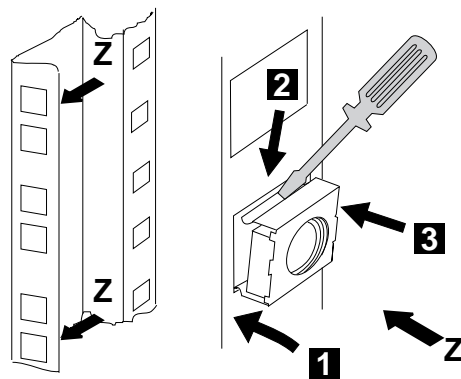

Figure 1-8. Installing the Captive Nuts for the 7585
3. \_\_\_ Refer to Figure 1-8 and install four captive nuts (PN 58G5766) on the left and right side of the controller expansion.